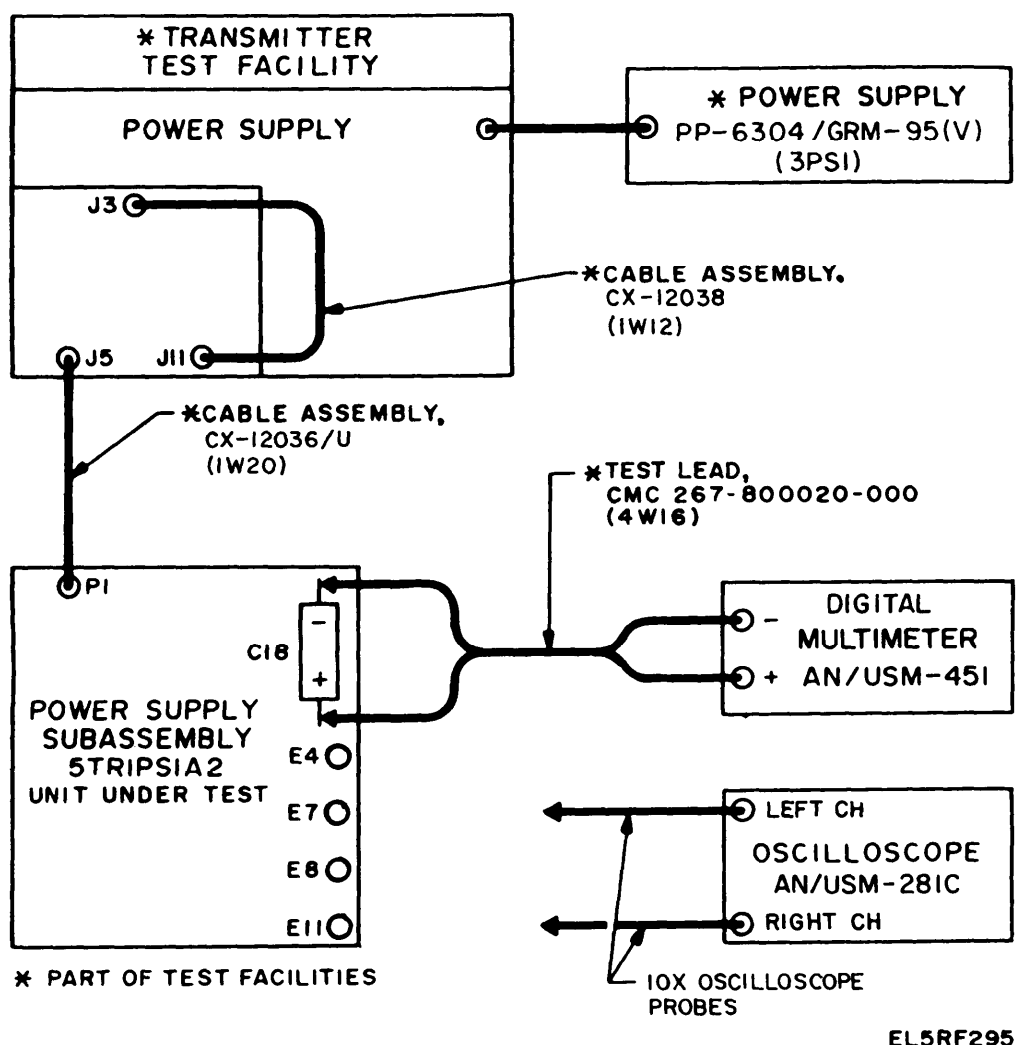

Figure 3-119. Power Supply Subassembly 5TR1PS1A2, Test Setup.
(1) Remove the larger red protective cover to expose power supply subassembly (heat sink) 5TR1PS1A2.
(2) Remove 5TR1PS1A2 by loosening the two green-circled mounting screws and pulling the module straight up.
(3) Open the test facility power supply door. Remove jumper cables between J4-J5 and J10-J11. Connect 5TR1PS1A2 and the test facility as shown in figure 3-119.
(4) Place the unit under test in front of the air outlet so that the airflow is directed over the heat sink.
(a) Connect the digital multimeter across capacitor C1 8 (observe polarity) as shown in figure 3-119.